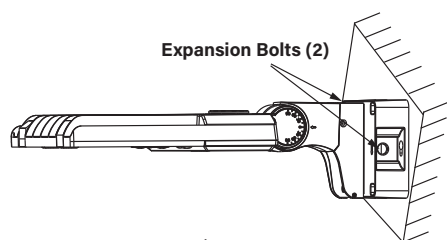

Figure 21
6. Mount the kit, with the fixture attached, on to the expansion bolts and secure with the nuts from Step 2. (Figure 21)